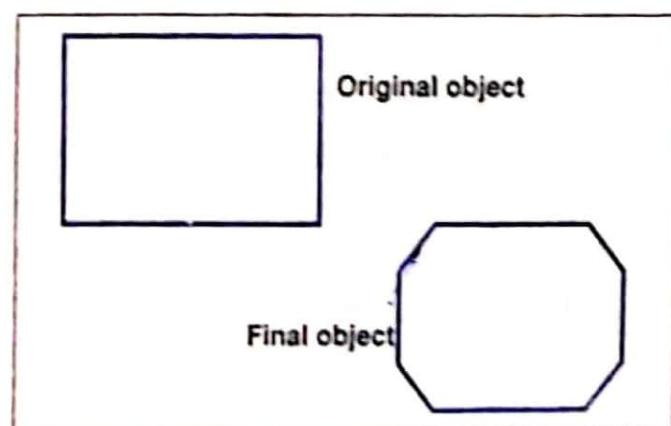

Fig. 19.35 Use of chamfer command
- (iv) Type given value, press enter. See Fig. 19.35